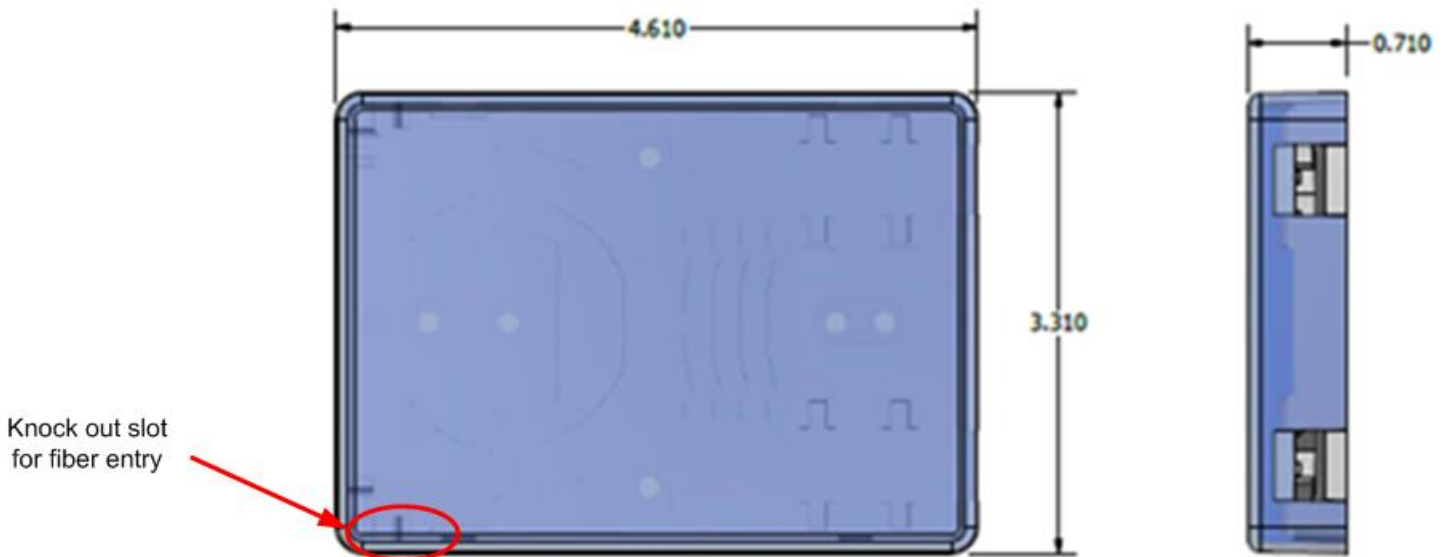

Fig. 1: Fiber Tray
4. Use pliers to knock out bottom left tab to allow fiber input (circled in Figure 1 below).